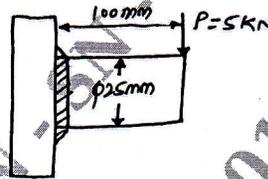

Fig.Q8(a)
- 8 a. A solid circular shaft 25 mm in diameter is welded to a support by means of a fillet weld as shown in Fig.Q8(a). Determine the leg dimensions of the weld if the permissible shear stress is 95 N/mm^2 .